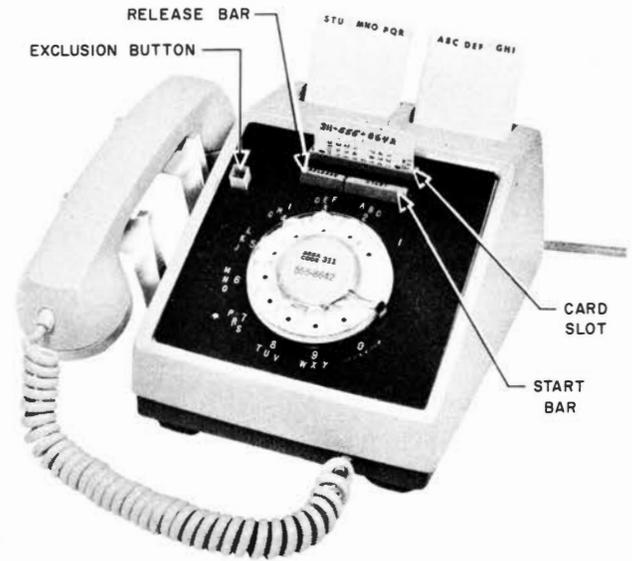

Fig. 1 - 660-Type Telephone Set
2.01 The 660-type telephone set (Fig. 1 and 2) is similar in appearance to other card dialer-type sets.
2.08 The exclusion feature, if provided, is actuated by pulling up on the plastic button (Fig. 1) at the left top of the face-plate. The exclusion switch is connected to the switchhook assembly by a wire link so that exclusion is cancelled when the hand-set is restored to its cradle. Sets can be converted to provide exclusion by the installation of a set of parts. (See Table A.)